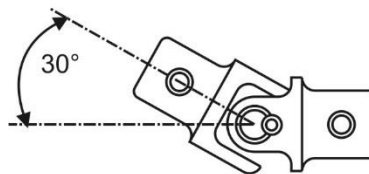

Figure 2
3...Next, with the driver in the seat, slide the 1-1/4" steering column over the 3/4" steering shaft. Now slide the steering wheel assembly of the end for the 3/4" steering shaft. Have the driver hold the steering wheel at the correct angle, desired height and distance from the driver. Mark the steering shaft (3/4" tubing) flush with the top of the steering hub (weld bung) and cut off. Use the left over 3/4" steering shaft as weld supports for the steering column making sure everything is still in line and at the correct angle and height. U-joint angle can be no more than 30°. See **Figure 2** for maximum operating angle.